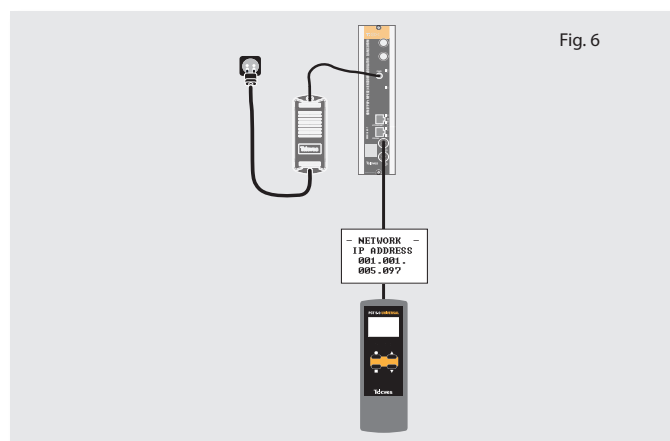

Fig. 6
6. Connect the programmer to an unit and read the IP address (figure 6).